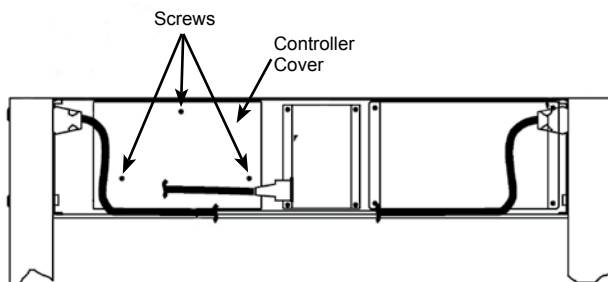

Figure 2-9
3. Remove the three screws that hold controller cover. (See Figure 2-9.)